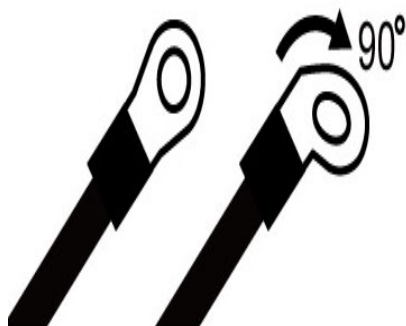

Figure 11 Assembling 62050P Input Terminal Safety Cover – 2
- b. Bend all of the wire terminals to 90° as Figure 11 shows.